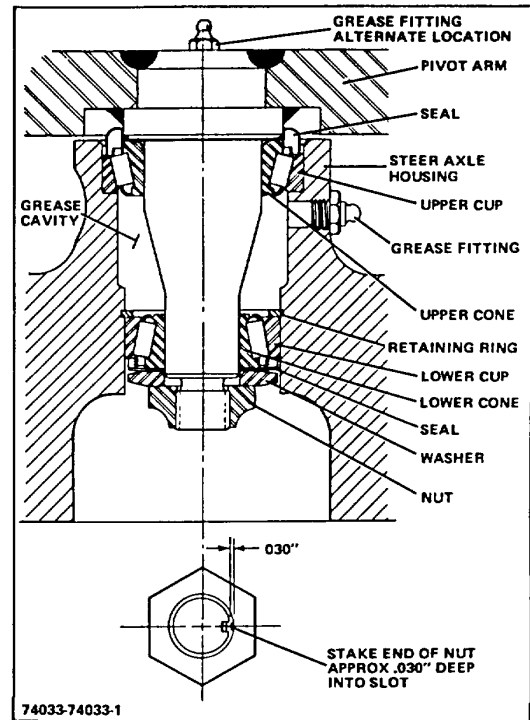

Figure 1-7. Pivot Arm Installation
axle bore (Fig 1-7).
11. After the proper rotational bearing torque is obtained, stake the end of the retaining nut .030" (.762 mm) as shown in Figure 1-7.